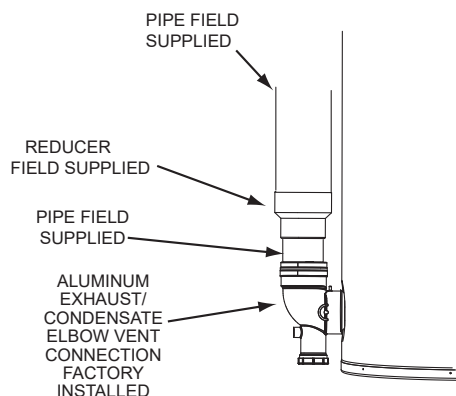

Figure 20. Vent (Exhaust) Connection
11. If installing a different diameter pipe, transition to smaller diameter pipe at the exhaust elbow on the water heater as shown in **Figure 20** (page 34). The field installed pipe between the exhaust elbow and the reducer coupling should be 18 inches (45 cm) or less in length.
12. If installing a different diameter vent pipe, transition to pipe at the exhaust elbow on the water heater as shown in **Figure 20** (page 34). The field installed pipe between the exhaust elbow and the reducer coupling should be 18 inches (45 cm) or less in length.
16. If installing 6" air intake pipe, transition to 4" pipe at the intake air connection on the water heater as shown in figure 20. The field installed 4" pipe between the intake air connection and the 6x4 inch reducer coupling should be 18" or less in length.